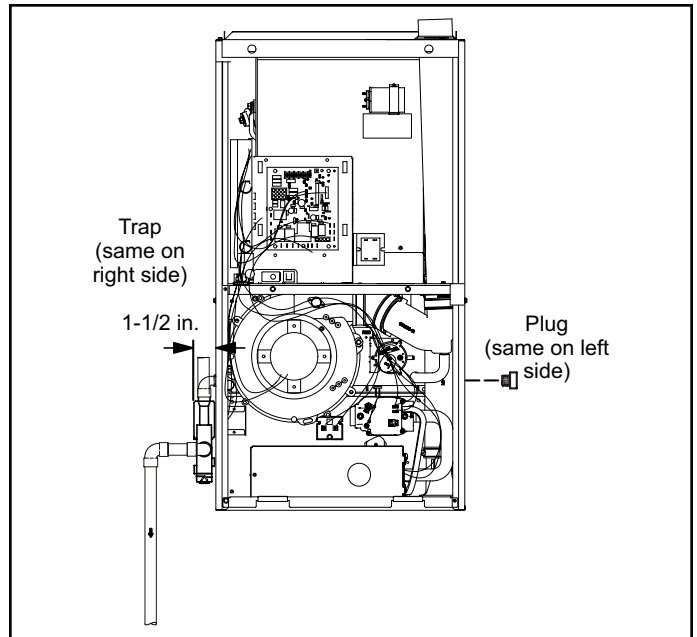

Figure 45. Condensate Trap and Plug Locations
This unit is designed for either right or left side exit of condensate piping in downflow applications. Refer to Figure 45 for condensate trap locations.
2. Use a large flat head screw driver or a 1/2" drive socket extension and remove plug (Figure 45) from the cold end header box at the appropriate location on the side of the unit. Install provided 3/4 NPT street elbow fitting into cold end header box. Use Teflon tape or appropriate pipe dope.